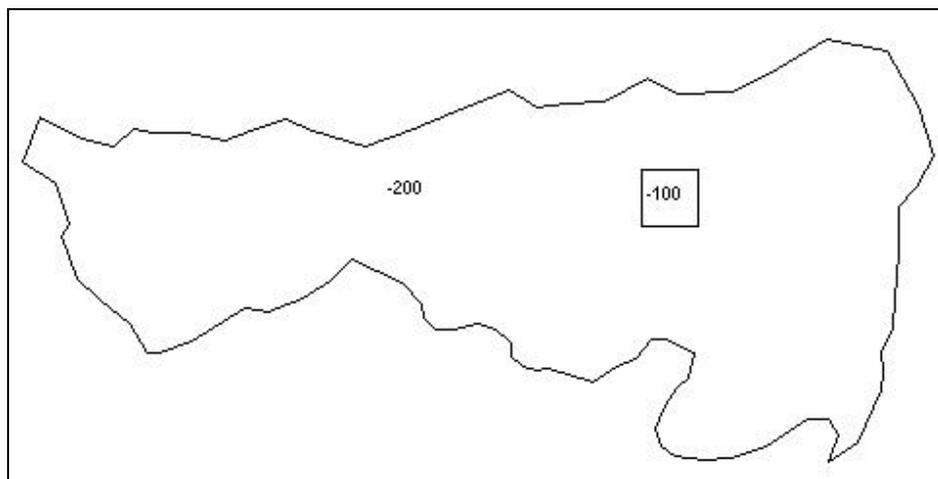

Figure 2 Recharge zones representing aquifer recharge (-200) and landfill leakage (-100)
First, the user will set up the recharge zones. The recharge polygons are shown in Figure 2. The user will define a parameter for both the small polygon defining the landfill and the larger polygon encompassing the rest of the site. The key values associated with the two zones are shown on the polygons in the figure. The -200 zone represents recharge to the aquifer from rainfall. The -100 zone represents leakage from the landfill to the aquifer.
3. Double-click on each of the polygons shown in Figure 2 and assign the appropriate key value to the *Recharge rate* input field.